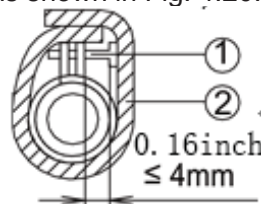

Fig. 4.20
- (1) Insert the drainage hose into drain outlet and then secure it with adhesive tape.
- (2) Tighten the pipe clamp to make the distance between screw cap and hose less than 4mm (3/16 in.).
- ① Metal clip (accessory)
- ② Drainage hose (accessory)
- (3) Apply thermal insulation for Pipe clamp and hose with gasket. (apply the thermal insulation after the drainage system test is finished as shown in Fig. 4.20..